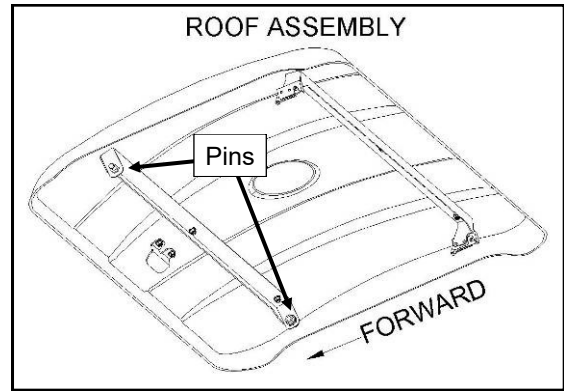

Fig. 5.1 (contents of roof kit)
5.1 Fig. 5.1 shows the only item included in the roof kit. Note: underside view of roof assembly shown.